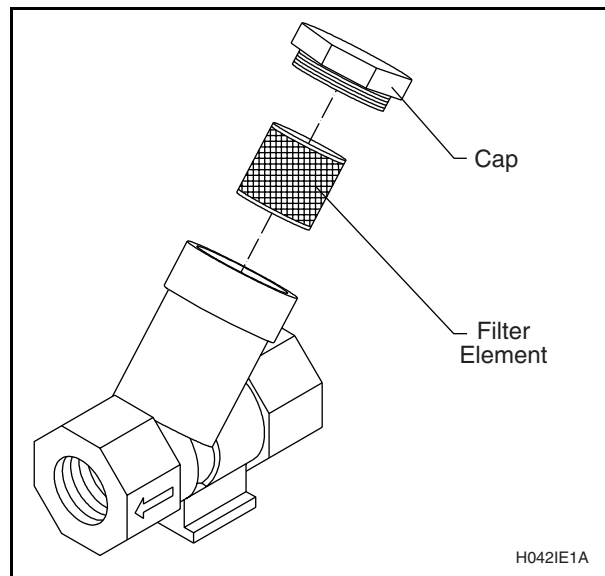

Figure 52
5. Clean steam filter, where applicable. See Figure 52.